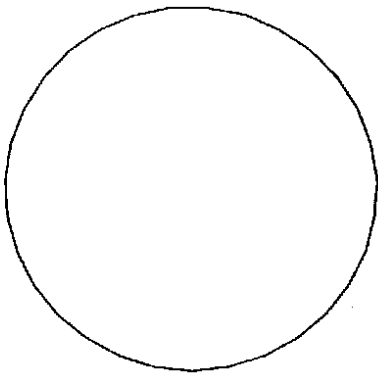

Figure 6-9. Arc Tolerance of One Plotter Unit
**Result** Draws a circle with an arc tolerance of 1 plotter unit (see Figure 6-9). The actual plot is shown in Detail C, Figure 6-22.